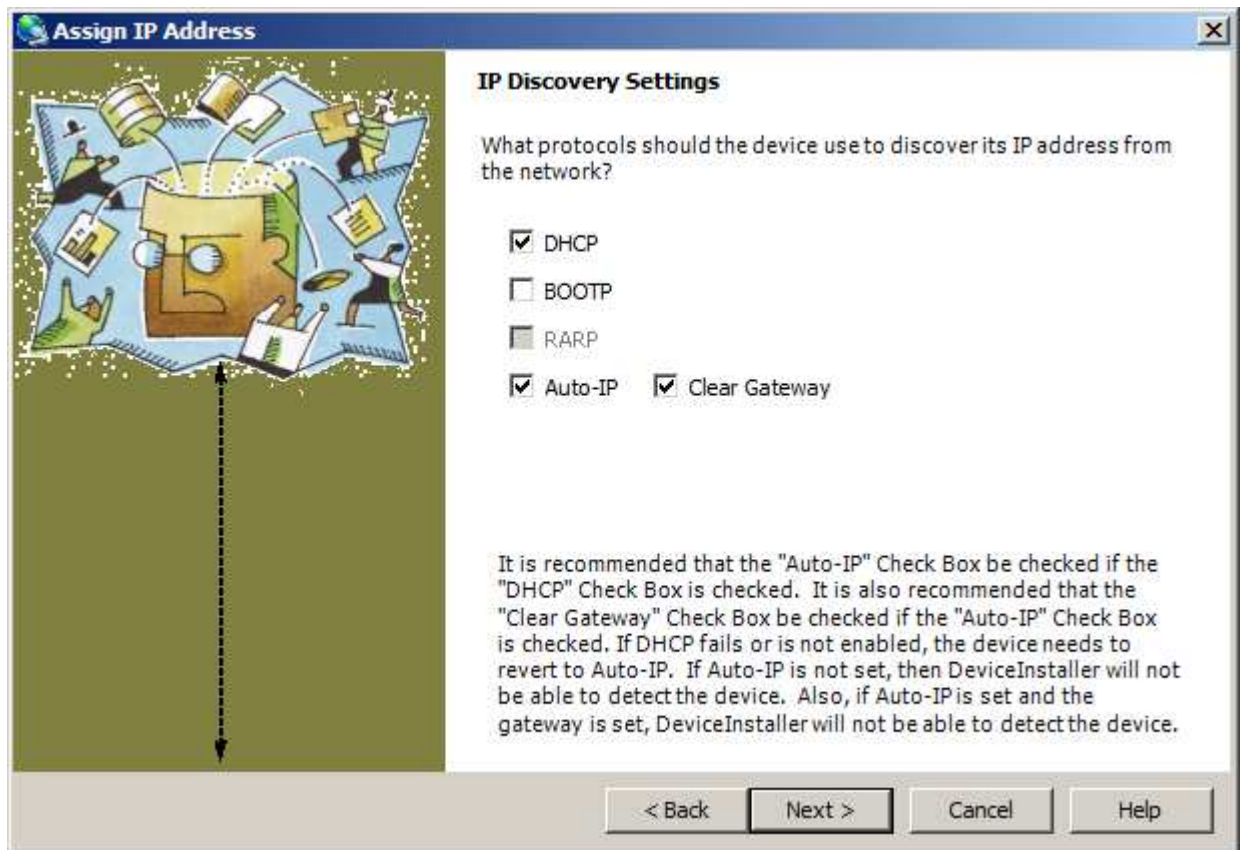

Figure 5 - Selecting the IP discovery settings
- 5) With the automatic (dynamic IP address) option selected, the IP Discovery Settings panel is displayed (Figure 5).